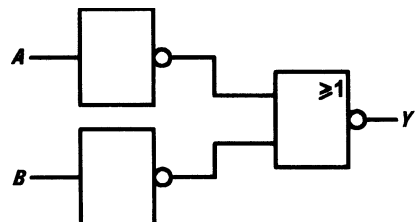

Figure A2.25
48. What single logic gate can be used to replace the logic circuit shown in Fig. A2.25? [Page 165]